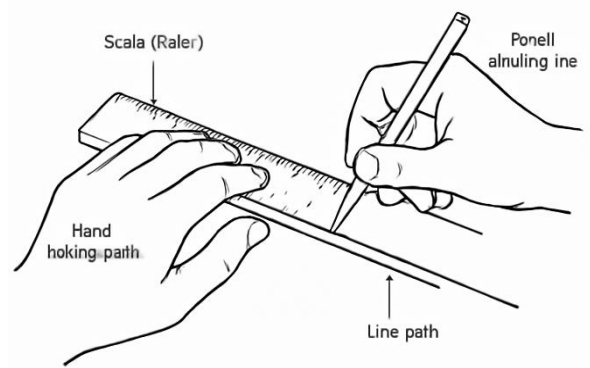

Fig. 1.14: Straight Lines with Scale
1. **Familiarize with Drawing Instruments (Fig. 1.14):**